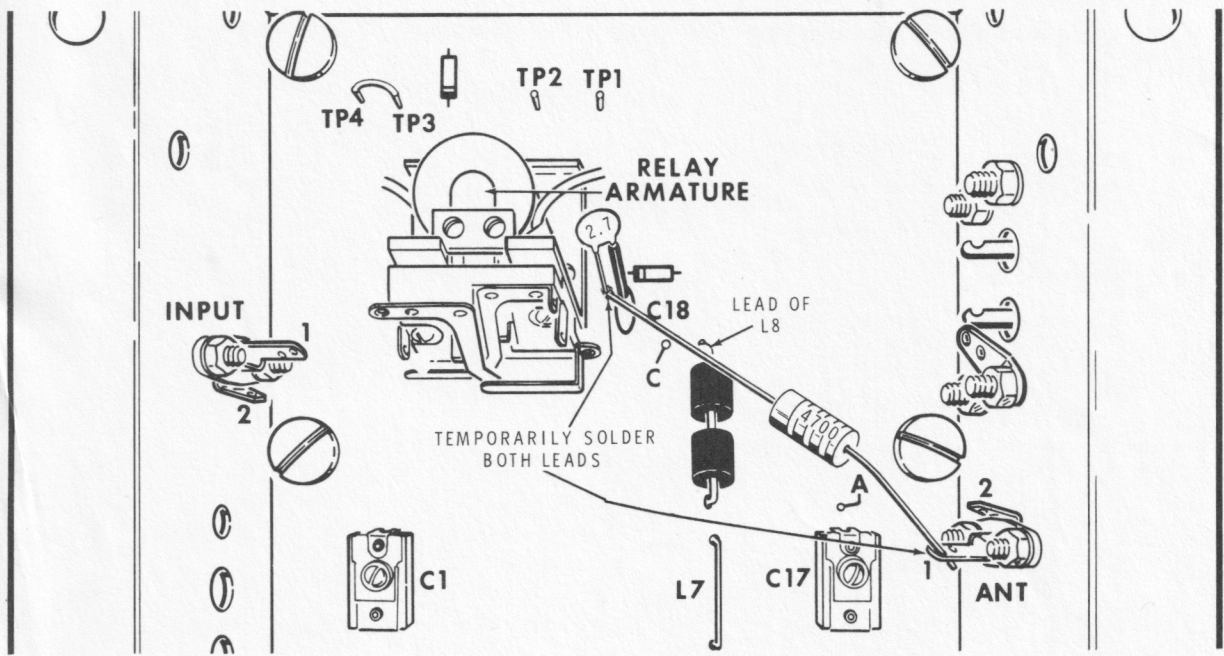

Figure 2-1B
- ( ) Refer to Figure 2-1B and temporarily solder one lead of the 4700 Ω (yellow-violet-red) resistor to lug #1 of the ANT phono socket. NOTE: A coaxial cable was previously soldered to this terminal. Solder the other resistor lead to the free lead of C18, the 2.7 pF disc capacitor.